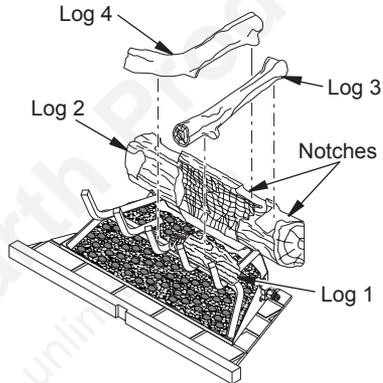
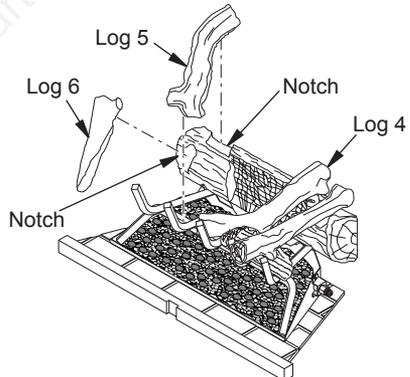
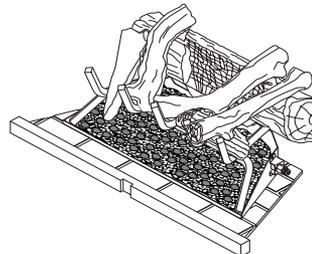

Figure 24 - Installing Logs 3 and 4
Figure 25 - Installing Logs 5 and 6
Figure 26 - Logs Installed for M36, M36EP, VME36 and VM36P Models
3. Place log 3 into notch on log 2, resting front end on top of log 1 (see Figure 24).
4. Place upper end of log 4 into notch on log 2 as shown in Figure 24. Rest lower end of log 4 onto middle grate finger as shown in Figure 25.
5. Place upper end of log 5 into notch on left of log 2 (see Figure 25). Rest lower end of log 5 on grate as shown in Figure 26.
6. Insert lower end of log 6 between first two grate fingers as shown in Figure 26 and position upper end of log 6 into notched area on front of log 2 as shown in Figure 26.